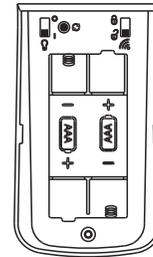

Figure 19
- Remove the battery cover from the remote control (H). Install 2 AAA batteries (not included). Replace the battery cover. (Figure 19)